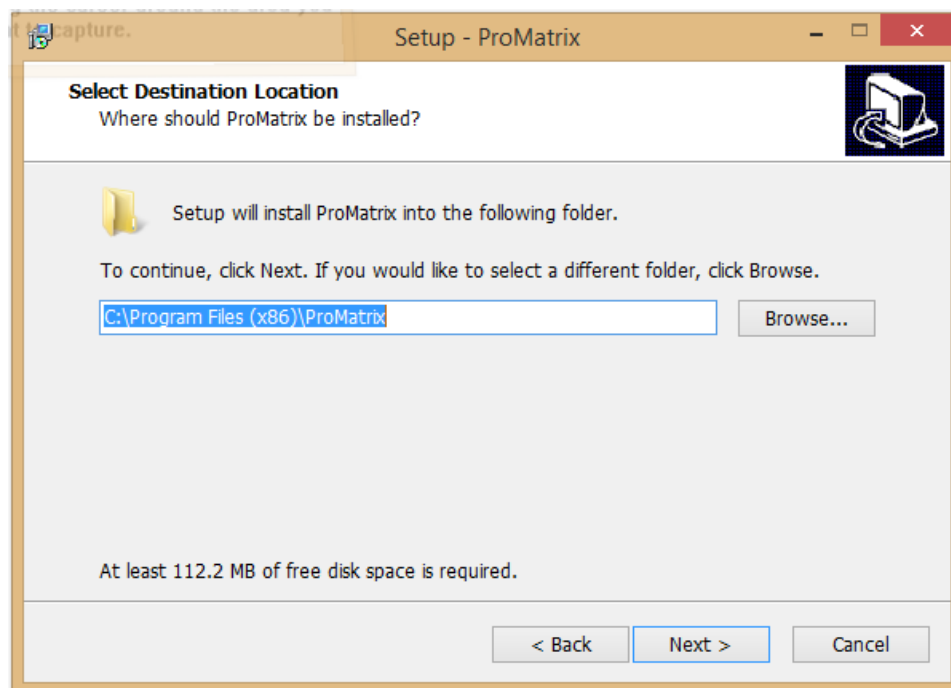

Figure 2: Directory Choice
- As shown above in figure 2 you will then be asked to choose the directory where you would like to install the Pro Matrix Software. We recommend this path is left as default. Once you have chosen the directory click next